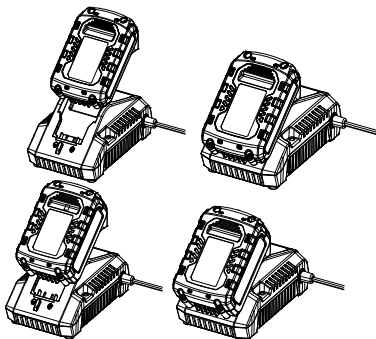

Fig. 1
2. Press down on the battery pack to be sure the contacts on the battery pack engage properly with contacts in the charger (Fig.1).